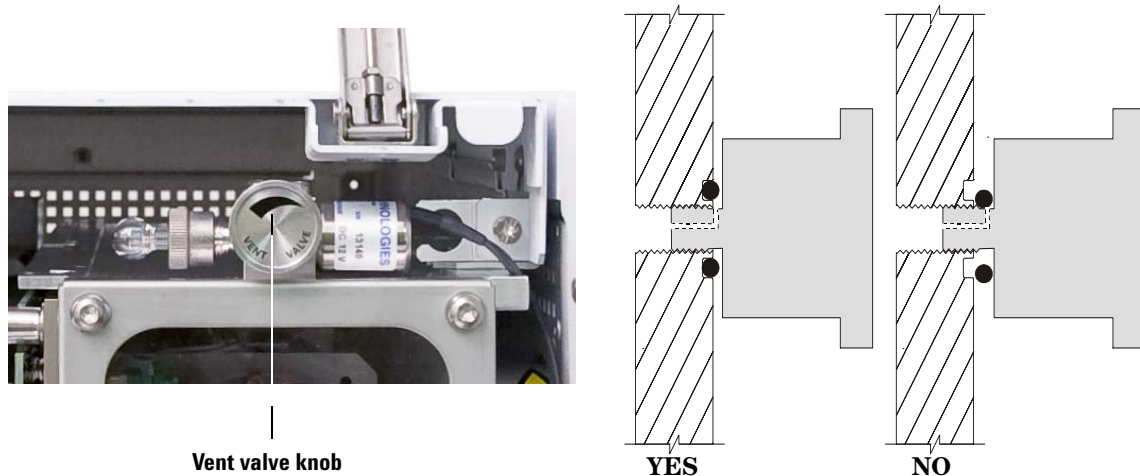

Figure 25 Venting the MSD
- 6 Turn the vent valve knob (Figure 25) counterclockwise *only* 3/4 turns or until you hear the hissing sound of air flowing into the analyzer chamber.